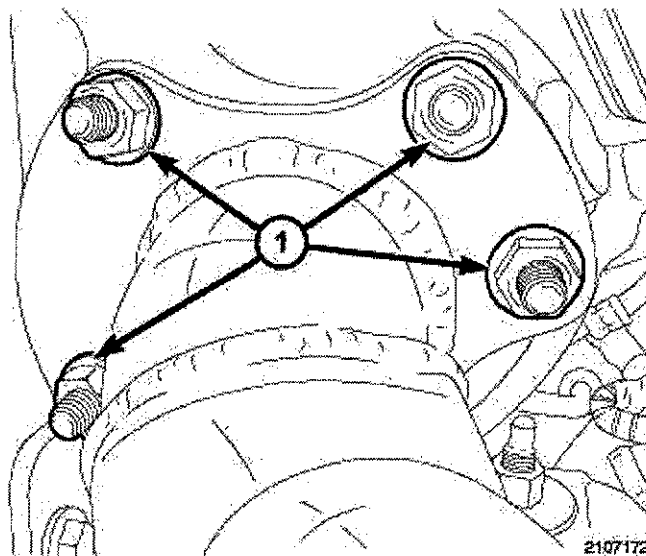

**Fig. 2 Catalytic Convertor**
9. Remove bolts (3) holding the catalytic converter assembly to the DPF assembly (Fig. 2).
11. Remove the 2 bolts holding the bracket to the engine(Fig. 2).